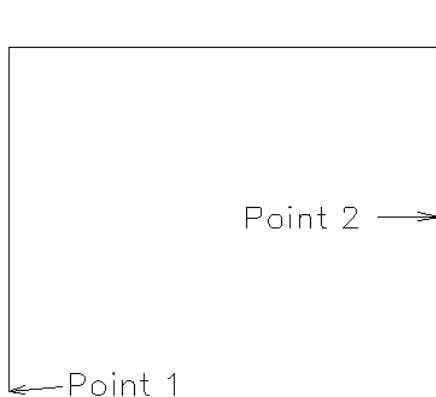

Figure 1
1. When drawing a cabinet that will have an angled front, view your drawing so you can see the true length of the front, in this example from point 1 to point 2 of figure 1. This would normally be in plan view (used here), but may be in elevation as for the side view of a hood cabinet.
2. To determine the width (or height) of the angled front place a point at each front corner (points 1 and 2), figure 1. Using the **UNITS (U)** command obtain the true length of the cabinet front and record it on paper, press escape or enter, but do not enter any values. The **UNIT** command is used to set the scale of a drawing, if you enter a value you may change your drawing scale.
4. Starting from a FRONT corner set the cabinet width (or height) equal to the value found by the **UNIT** command in step 2, figure 1.